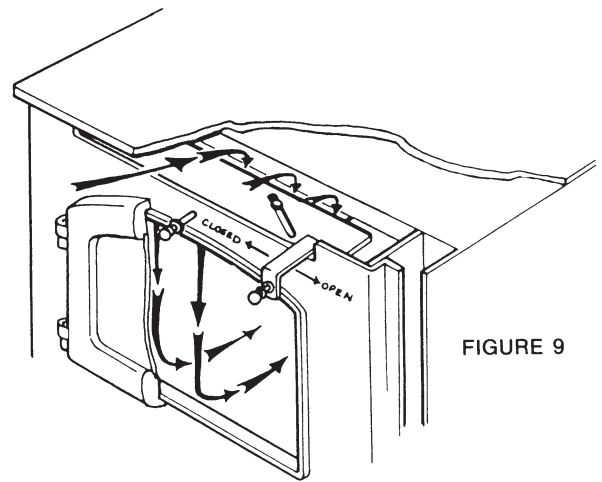

FIGURE 9
**NOTE:** When the air intake control is fully open air sweeps down across the glass creating a wash of air in front of the glass and blocks smoke from clouding it. As the air intake is closed, less air washes the glass and the glass will become smokey. (See Figure 9)